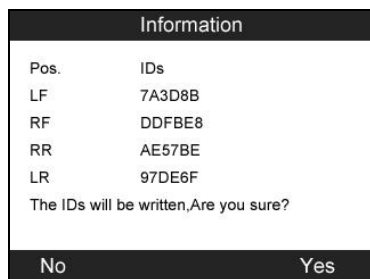

Figure 3.22
- 2) Then an information screen will prompt to show the activated sensor ID data for confirmation, press **Y** button to continue the process, or **N** button to exit. (Figure 3.22)
- f) Then an information screen will prompt to show the activated sensor ID data for confirmation, press **Y** button to continue the process, or **N** button to exit. (Figure 3.22)